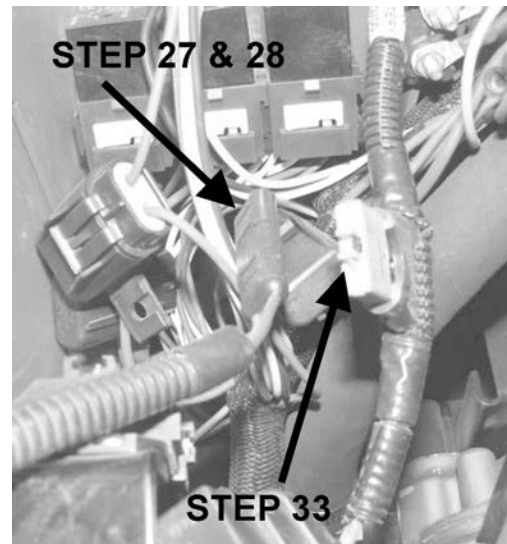

FIGURE 20
27. Route the entire harness up to the key ignition area. **Figure 20**
28. Attach the two pole flat connector on the wire harness to the Accessory harness Connector from the machine. **Figure 20**
33. If switch panel has no power, check the breaker **Figure 20** located on the red wire of the main relay and breaker harness. Reset breaker if needed.